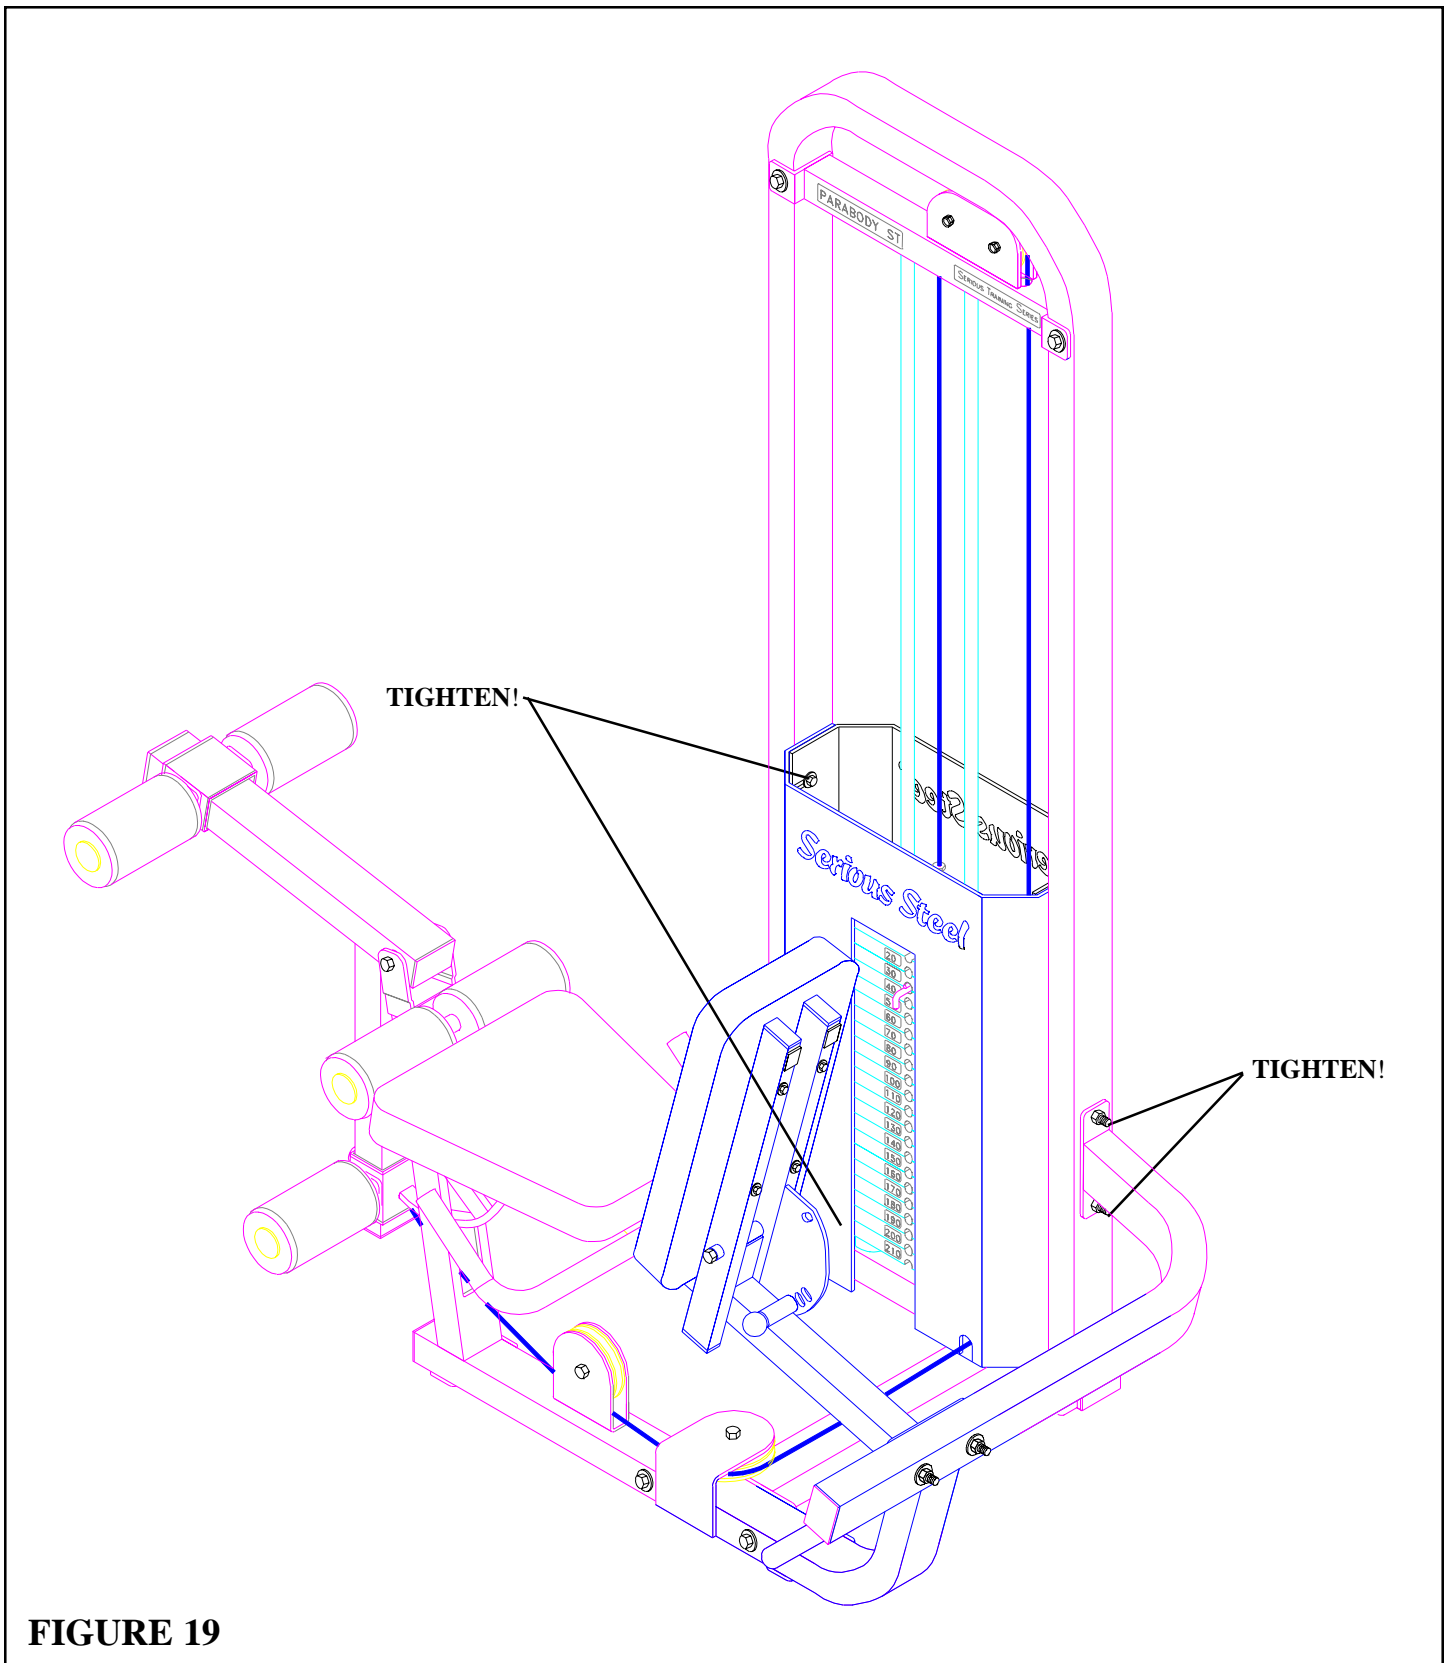

**FIGURE 18**
- Assemble FRONT SHROUD (16) over the protruding bolts, then assemble the REAR SHROUD (17) inside of the FRONT SHROUD (16). (**NOTE: Make sure shrouds are underneath the washers.**) See FIGURE 18.